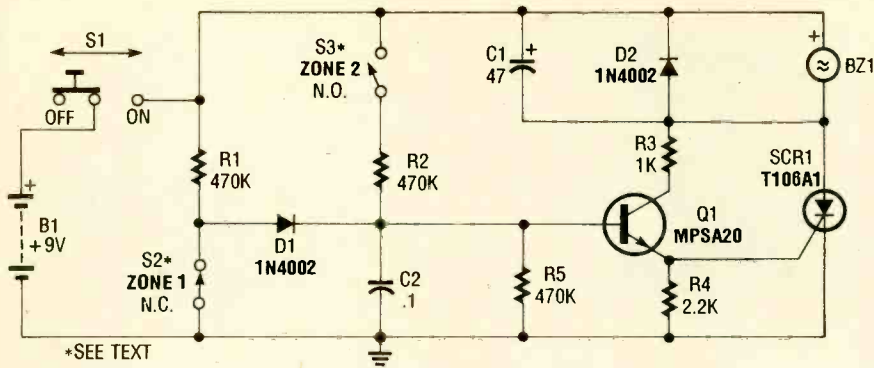

Fig. 1. The alarm is a simple circuit that drives a loud buzzer when either of its two zones are triggered.
**Zones.** Looking at the schematic diagram in Fig. 1, you can see that the unit has two zones. What that means, is that two separate entry points can be monitored, either both at the same time, or individually. That would be useful if, for example, you wanted to monitor the front door of your home for intruders, but were having a cookout in the backyard and wanted to leave the back door free for people to go in and out. Of course, if you were going to be out, you would want to have both doors monitored.
**Circuitry.** As for the circuit itself, you can see from Fig. 1 that it is very simple. Switch S1 is the main power switch, and S2 and S3 are for Zones 1 and 2, respectively. Switches S2 and S3 operate as follows: S2 normally pulls the anode of D1 to ground, preventing it from conducting. If S2 is opened, D1 is allowed to conduct, which puts a positive voltage on the base of Q1, causing that transistor to turn on.
Fig. 1. The light strip controller is a simple circuit built around a T106D1 SCR. A 100k potentiometer (R1) is used to vary the current presented to the gate of the SCR. That, in turn, determines the level of energy moving through the SCR, which is the energy available to light the lamp.